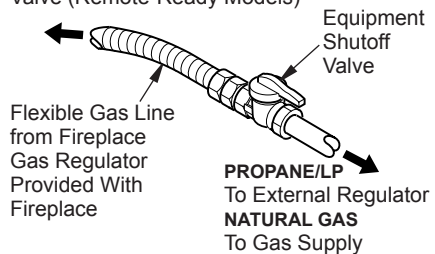

Figure 16 - Attaching Flexible Gas Line to Equipment Shutoff Valve
3. Apply pipe joint sealant lightly to male threads of gas connector attached to flexible gas line/equipment shutoff valve (see Figure 16).